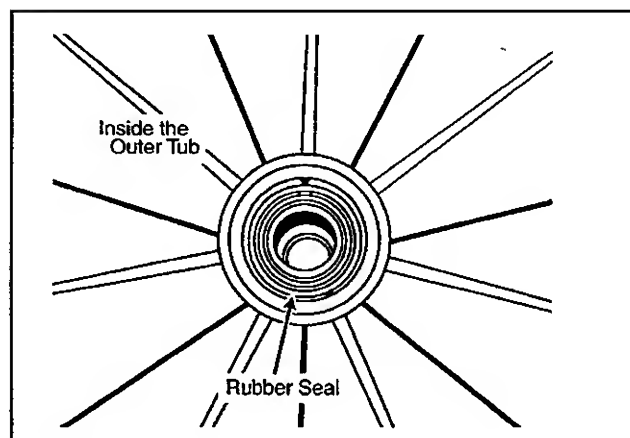

Figure 7-8
7. Remove the shaft seal (*Figure 7-8*).
4. Reach into the inside of the outer tub bearing area and remove the rubber seal. Discard both the steel seal washer and the rubber seal (*Figure 7-8*).
5. Position the spacer, replacement rubber seal and steel seal washer into the outer tub bearing area (*Figure 7-8*).